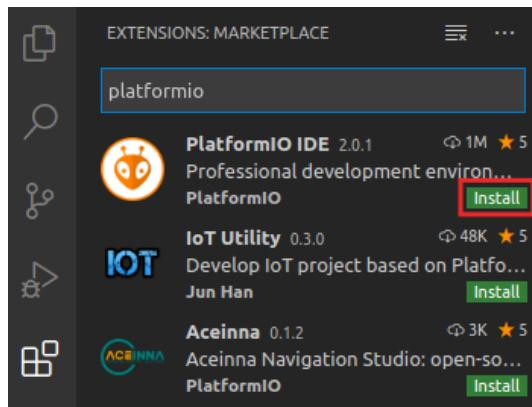

Figure 31. PlatformIO IDE Extension
- Type *PlatformIO* in the search box and install the PlatformIO *IDE* by clicking on the install button next to it (see Figure 31).